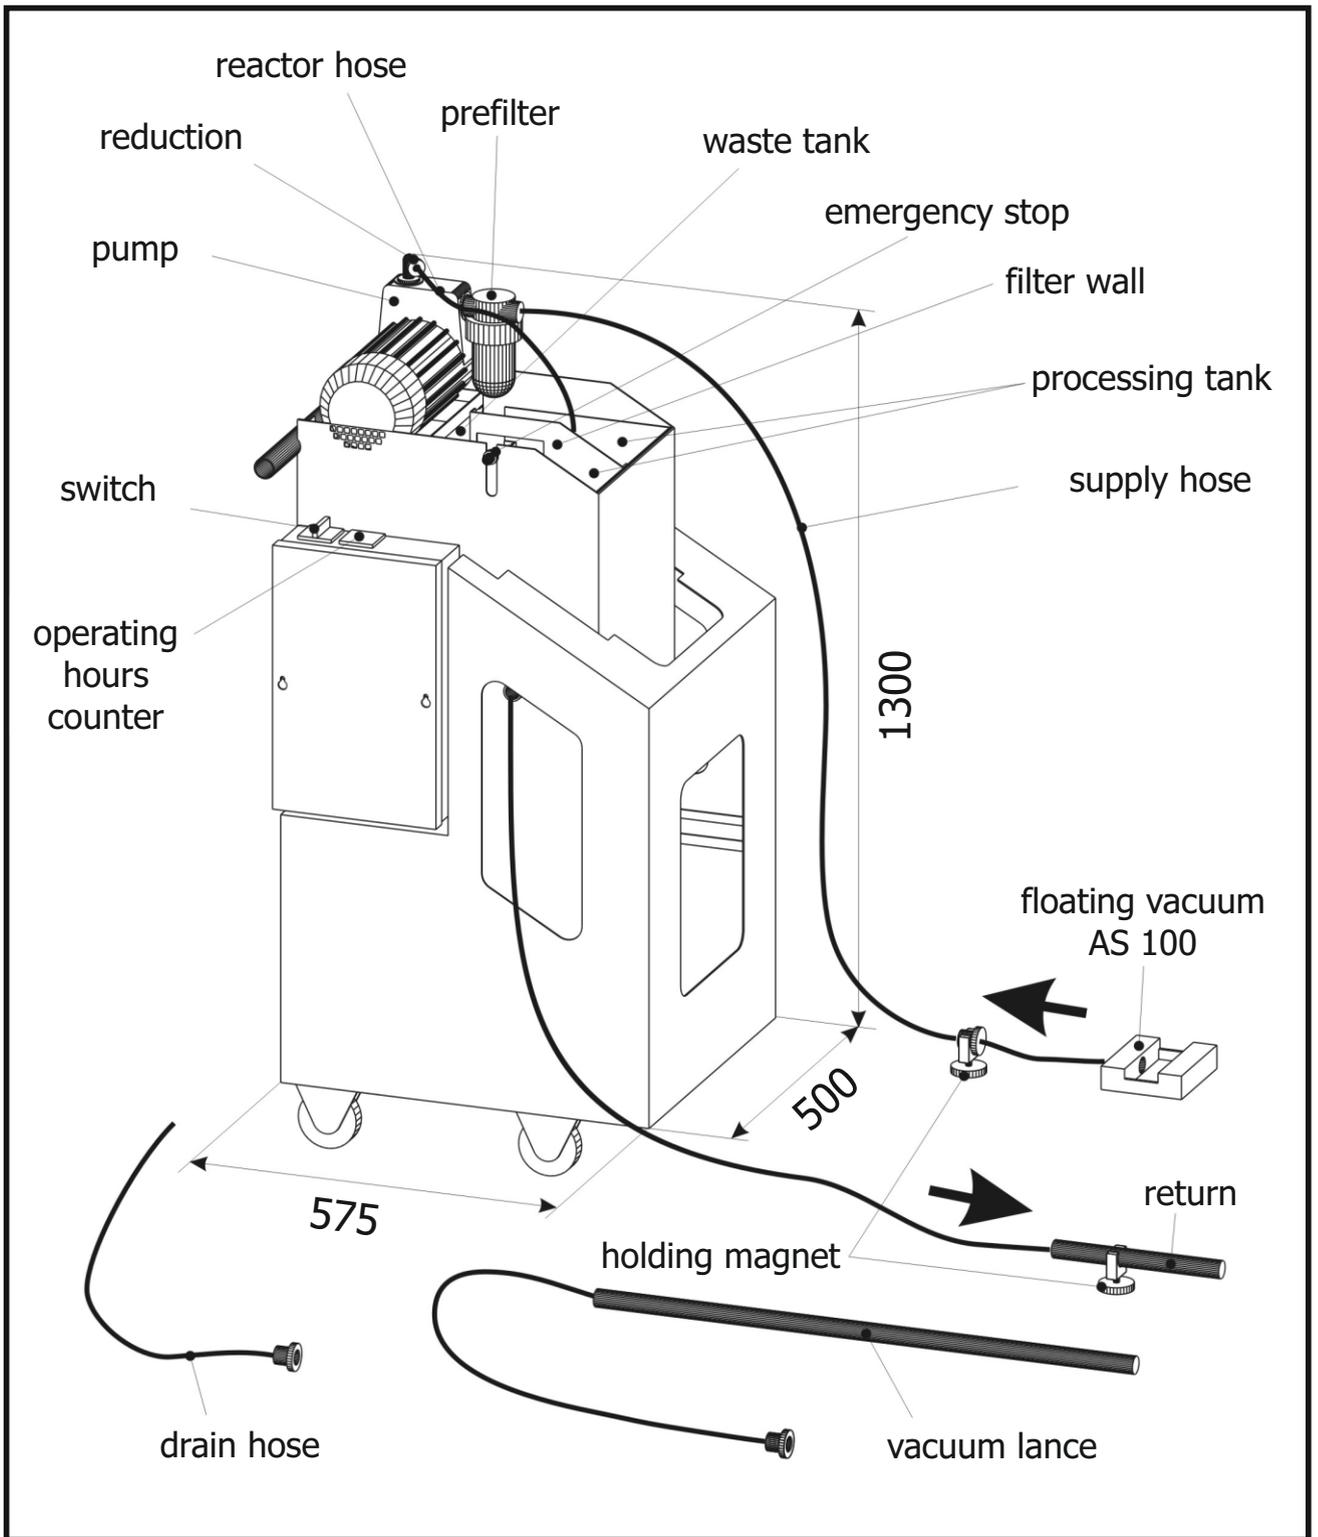

Figure 2: unit location plan / assembly plan
- Check the medium to be cleaned for demulsification (Figure 2 and 3)